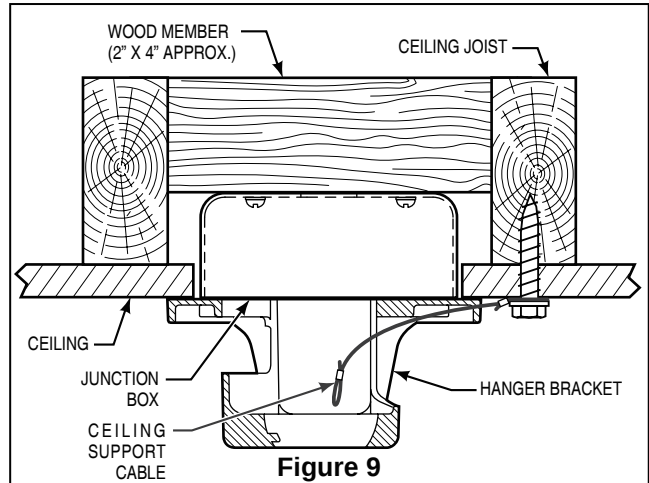

Figure 9
- ☐ 1. Securely attach the hanger bracket to the outlet box using the outlet box screws and washers supplied with the outlet box. (Figure 9)
- ☐ 2. Drill a 1/4" pilot hole into the building structure to prevent splitting or cracking with installation of the lag bolt. Using the 3/8" x 2" lag bolt and flat washer, attach safety cable to ceiling joist or wood structural member. The lag bolt will pass through the flat washer, safety cable loop, and into the building structure. (Figure 9)
NOTE: Ceiling support cable cannot be secured to junction box only, it must be directly secured to ceiling joist or structural member using the 3/8" x 2" lag bolt and flat washer. (Figure 9)